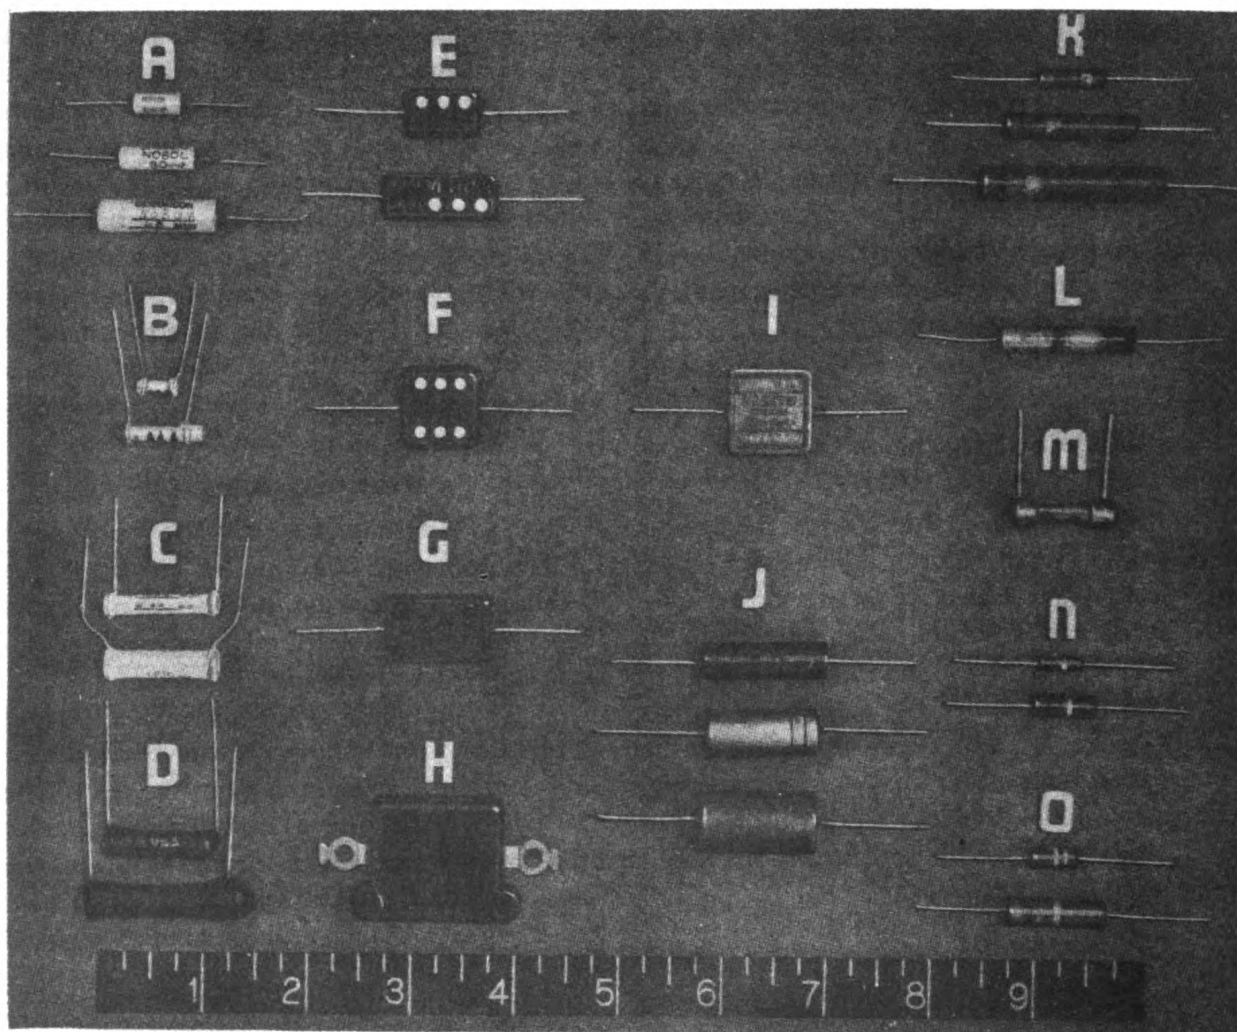

Fig. 63. Types of Capacitors and Resistors
shape or both. The relative appearance of the various capacitors and resistors used in these radio sets is shown in Fig. 63. The first column (A-D) shows ceramic capacitors. The second (E-H) shows mica capacitors and the third (I-J) shows oiled paper capacitors. In the fourth column (K-O) are various kinds of resistors. The general characteristics of such units are given in Table VII and discussed in more detail later. While Fig. 63 covers the range of types, it does not necessarily include all the variations produced by different manufacturers.
| Group Letter (Fig. 63) | Type | Maximum as Used in This Equipment | | Advantages | Disadvantages | Typical Use |
The three sizes shown under group A (Fig. 63) cover the range of physical sizes in which these insulated ceramic capacitors are manufactured. These units were supplied originally in small sizes to provide temperature compensation for the combination of coil and mica capacitor in a tuned circuit. More recently, they have been specified in larger sizes in some tuned circuits to eliminate the need for a mica capacitor and provide temperature compensation for the coil. Since ceramic units with equal capacitance may differ greatly in temperature coefficient, it is not safe to use a ceramic unit for a replacement (where stability is needed) unless the temperature coefficient is known to be correct for that use.
Five sizes of ceramic capacitors are shown in Fig. 63. The two smallest are those in B. The next two are those in C, and the largest is the lower unit in D. Except for insulation the largest unit in group A corresponds in characteristics to the small unit in group C.
All the mica capacitors shown in the second column of Fig. 63 are insulated by a molded bakelite jacket and can be allowed to rest against metal. In general, the foil-mica units have a brown jacket, and the silver-mica units have a red jacket. Capacitors with a straw-colored bakelite jacket, as used in this equipment, may be either foil-mica, silver-mica, or paper units.
The capacitors shown in the third column of Fig. 63 use oil-impregnated paper for insulation. For stability, they do not compare with silver-mica types but they can be used as replacements for foil-mica types for screen grid and filament positions of vacuum tubes where they do not need to pass much radio-frequency current. In general, they are good substitutes for mica units for most by-pass purposes. The voltage rating decreases as the capacitance increases as follows:
44. Color Codes on Components. The various types of capacitors and resistors used in Radio Sets SCR-608-A and SCR-628-A are illustrated in Fig. 63 and discussed in Paragraph 43e. Some capacitors and resistors have their values stamped on the unit, but in many cases colored dots and bands are used instead. The various color codes used for capacitors and resistors are shown in Figs. 64 to 68 inclusive, and are discussed in the following paragraphs.
a. Molded Mica Dielectric Capacitors. Capacitors of this type are illustrated in groups E, F, G, and H of Fig. 63. Three different color codes are used on these units: